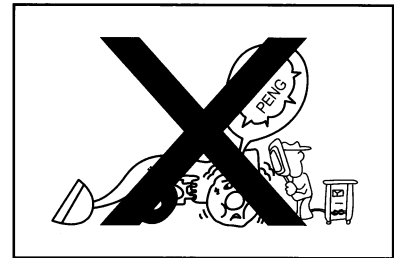

Figure 2-15
- When welding near tyre, special attention should be paid because it may explode. (Figure 2-15)